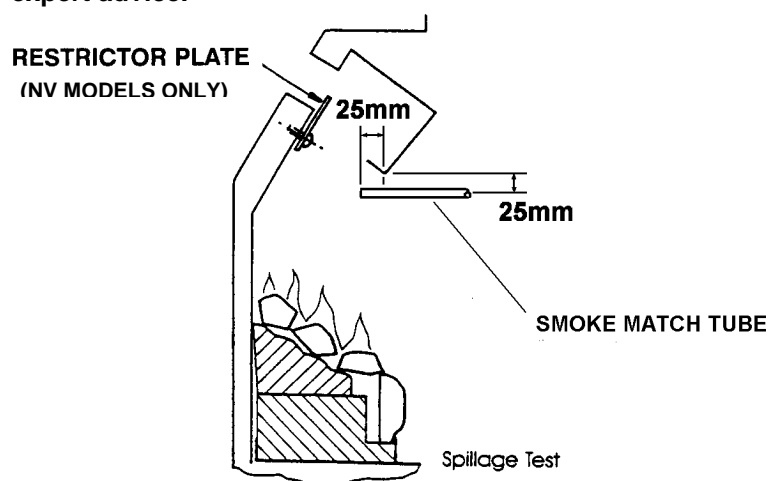

Figure 6 :
- Warm up the appliance on MAX for 10 minutes. Insert a smoke match as shown in figure 6, 30mm from either end of the fireplace opening.